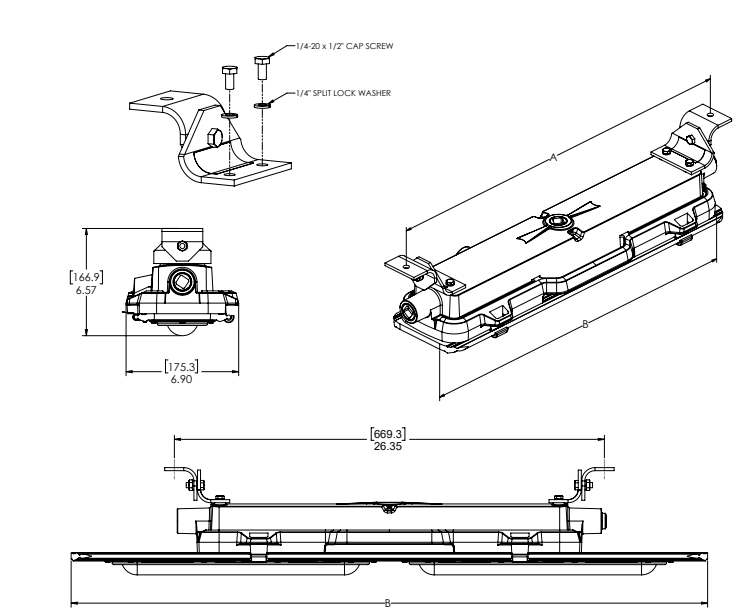

Figure 3. Ceiling-Swivel Mount Installation
- 2. Identify mounting location suitable for supporting the luminaire, mark and drill holes for fastening swivel brackets per center-to-center dimension 'A' in table below (see Figure 3).
- 3. Mount swivel bracket assemblies to luminaire driver housing as shown in Figure 3. Use two (2) of the provided 1/4" hex bolts and split ring lock washers for each bracket. Torque to 64 in-lb (7.2 N-m).
- 4. Luminaire is now ready for mounting. It is strongly suggested to use two (2) qualified tradespeople to proceed with the final mounting of the luminaire. This is recommended to avoid any personal injury or damage to the luminaire.